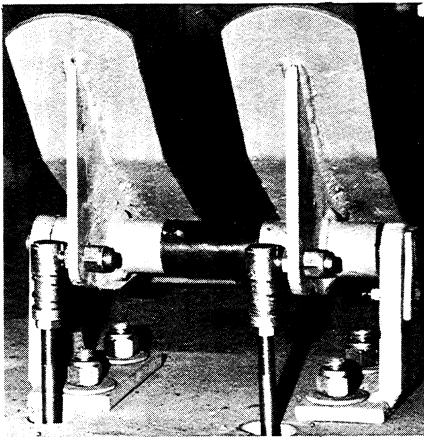

Figure 62.
1. Remove the nut that holds the ball-joint or the yoke to the control bellcrank. See Figures 62 and 63.